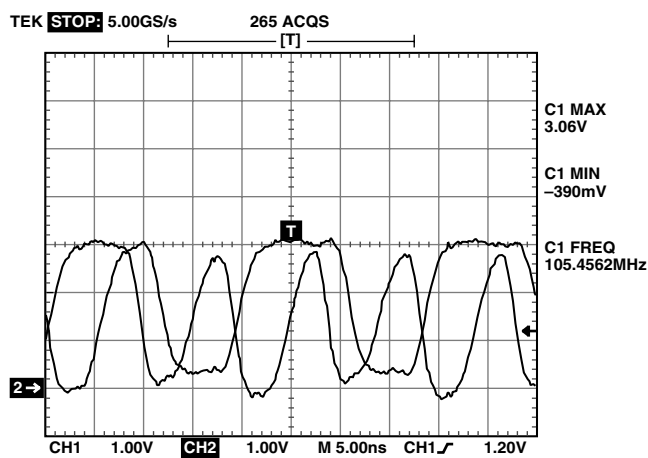

Figure 32. Data Bit and Clock at 37-Pin Connector
The ADC digital outputs are latched on the board by two 574s, the latch outputs are available at the 37-pin connector at Pins 25–36. A latch output clock (data ready) is available at Pin 21, with the complement at Pin 2. There are series termination resistors on the data and clock outputs. These can be changed if required to accommodate different loading situations. Figure 32 shows a data bit switching and output clock (DR) at the connector.